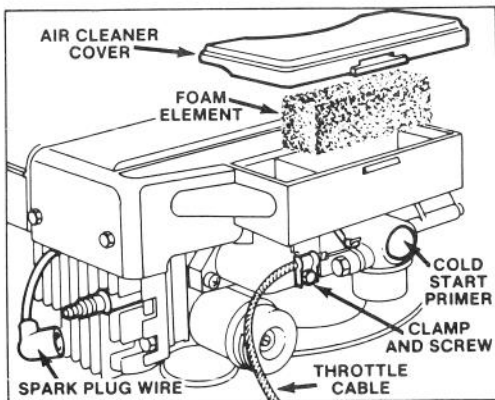

Figure 12
Before starting engine when temperature is below 50° (10° C), push cold start primer 5 times (Fig. 12), pausing 2 seconds between each push.
2. Lift off air cleaner cover and clean thoroughly (Fig. 12).
3. If top of foam element is dirty, remove it from air cleaner body (Fig. 12). Clean thoroughly.
1. Stop engine and pull wire off spark plug (Fig. 12).
2. Clean around spark plug and remove plug from cylinder head (Fig. 12).
4. Loosen cable clamp screw until throttle cable slides (Fig. 12). Move carburetor control arm as far to the left as possible. Pull throttle cable slightly to remove any slack and tighten cable clamp screw to lock adjustment in place.